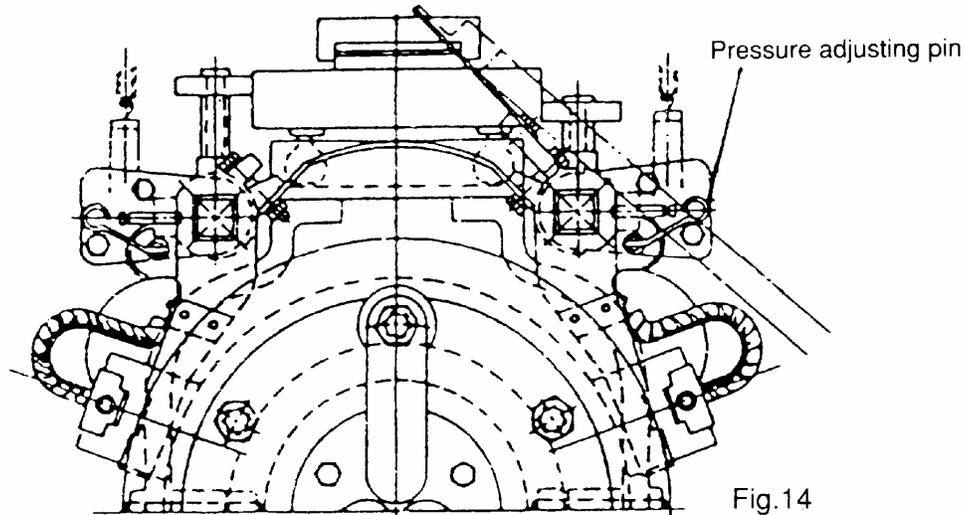

Fig.14
- The brush pressure may be reduced after use, so it is necessary to re-adjust. For adjustment, please turn adjusting screw, pressure adjusting pin or pressure adjusting plate as shown in Fig. 14 to obtain the correct tension (=0.23 x brush cross sectional area in cm2) ±10% kg.